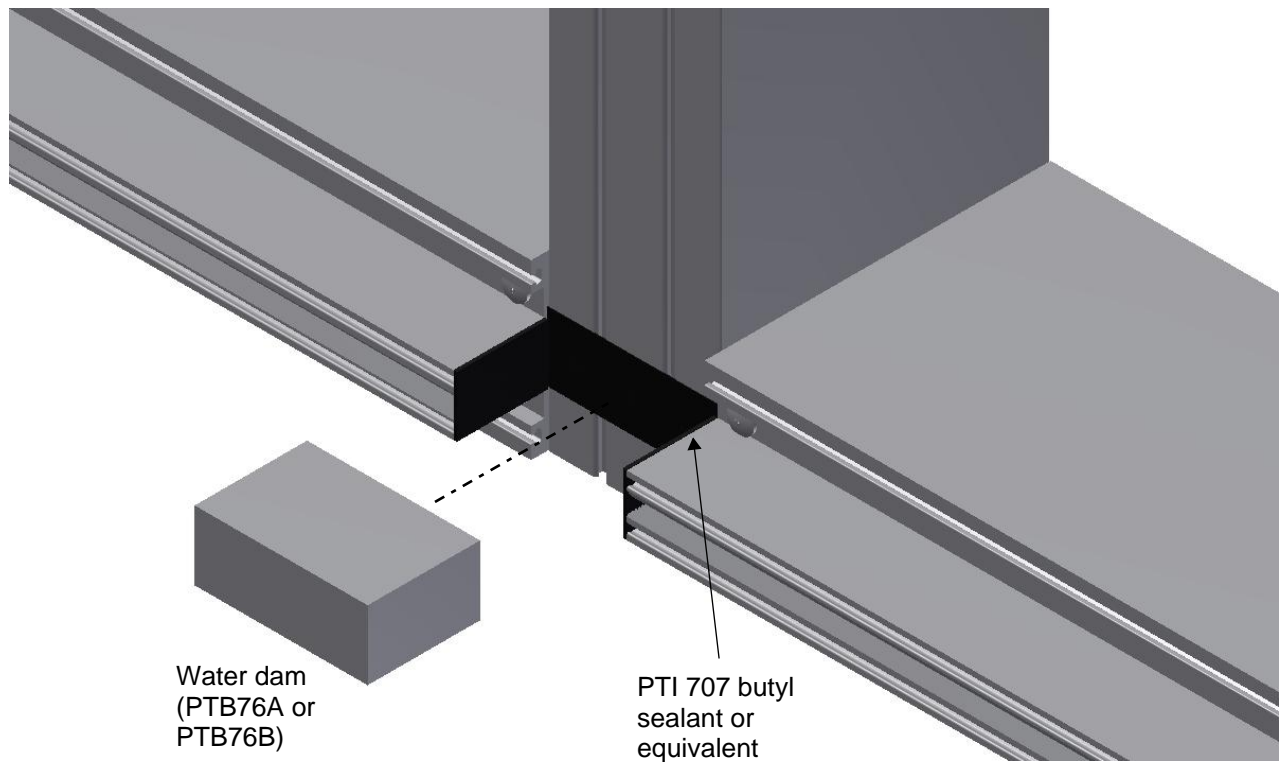

Figure 5: After applying sealant, place water dam (PTB76A or PTB76B) between horizontal members at the vertical mullion at the intermediate sill.
- After attaching horizontals to vertical and prior to glazing, apply butyl sealant where a water dam will slide in as shown in Figure 5.
- Place a water dam next to the vertical mullion between the two horizontal members as shown in Figure 5.